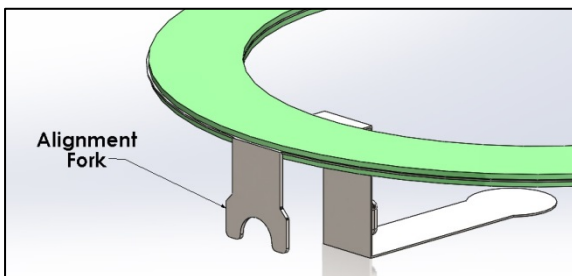

Figure 3 - Z-ALERT Alignment Fork
- h) Tighten the retaining nut until it sits flush with alignment fork (Figure 3). Excessive force should not be used. The retaining nut must only be snug against the fork surface.
- i) Tighten the retaining nut until it sits flush with alignment fork (Figure 3). Excessive force should not be used. The retaining nut must only be snug against the fork surface.